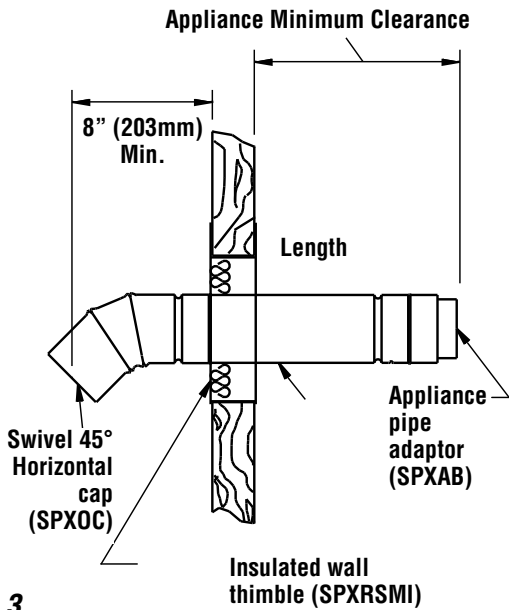
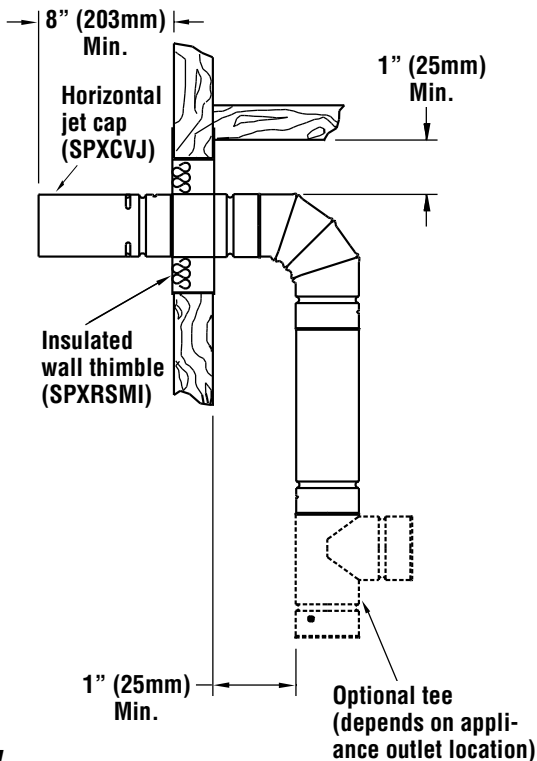
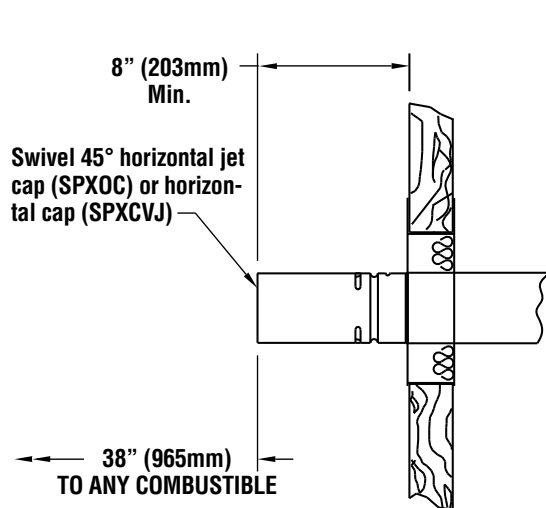

Figure 3
Figure 4
Figure 8b
2. The vent can be installed either vertically (see **figure 2**), horizontally (see **figure 3**) or both (see **figure 4**) depending on your appliance location.
NOTE: When using an horizontal jet cap or the swivel 45° Horizontal cap, always leave a 38" min. distance between the exhaust of the cap and any combustible and always put the outlet not less than 7ft (2,1m) above grade when located adjacent to a public walkways (see *figure 8b*). The swivel 45° horizontal cap must be pointed downward (see *figure 3*).